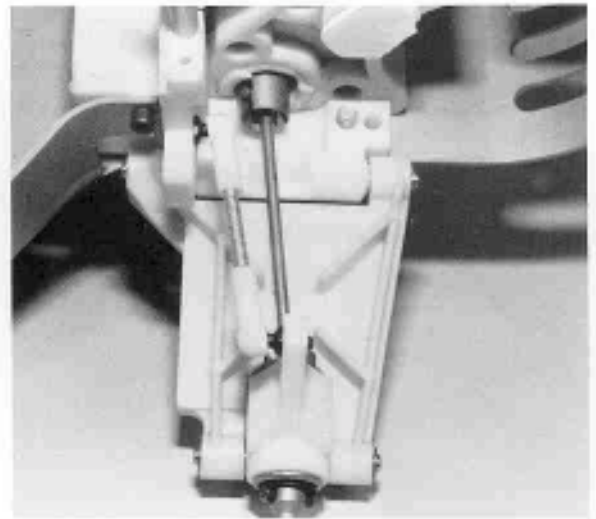

Fig. 118
-118- Put the #6385 strut onto the ball on the bulkhead. Put the spring inside the stub axle, and make sure the spring fits freely in the hole. If the spring binds you may be able to clear the hole with an Allen wrench; or you can reread step 111. Put the dogbone or half-shaft into the gear slot. Now, align the stub axle with the dogbone and slide it in. Put the strut on the ball in the hub carrier. It should look like Fig. 118 now. Do the R.H. side.